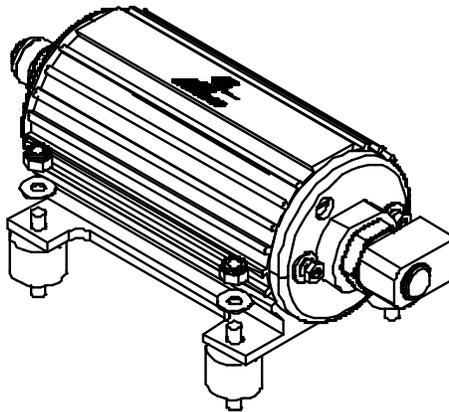

Figure 6
- 2-5. Position the pump on the rubber isolators installed earlier and secure in place using the supplied washers and nuts, as shown in figure 6.